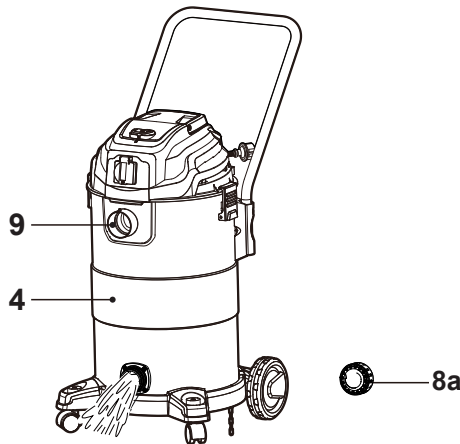

Fig. 27
**NOTE:** After wet vacuuming, turn the machine off and remove plug from power supply; remove the drain cap (8a) and drain the liquid into a suitable receptacle or drain (Fig. 27). Remember to refit the tank with the drain cap. Make sure the filters and tank are dry and clean before dry vacuuming.